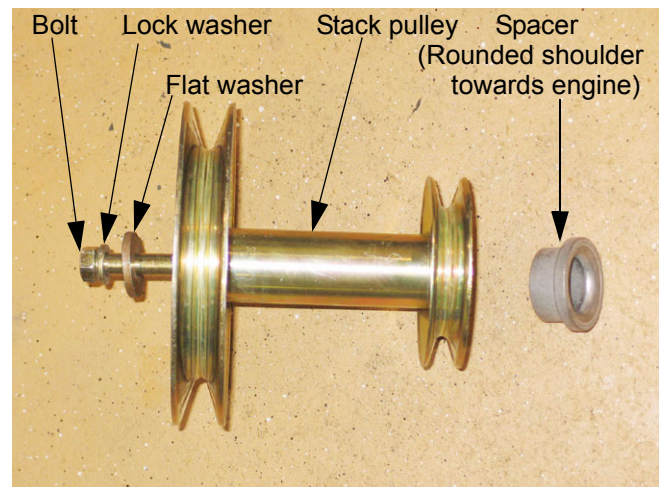

Figure 8.4
- 8.4. Pulley Hardware: The pulley is secured by a bolt, lock washer, and a heavy flat washer. A spacer is positioned above it on the crankshaft, with the top edge radius matching the step in the crankshaft. The key is integral with the stack pulley. See Figure 8.4.